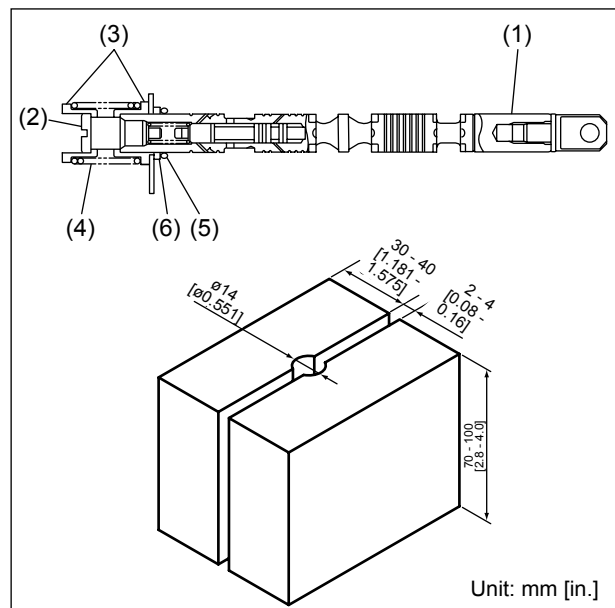

Fig. 3.428
- ④ Hold the sub-assembly of the spool (1) that has been removed in step ② in a vise equipped with soft jaws (pieces of hard wood) shown in Figure 3.428, with care not to damage its exterior.